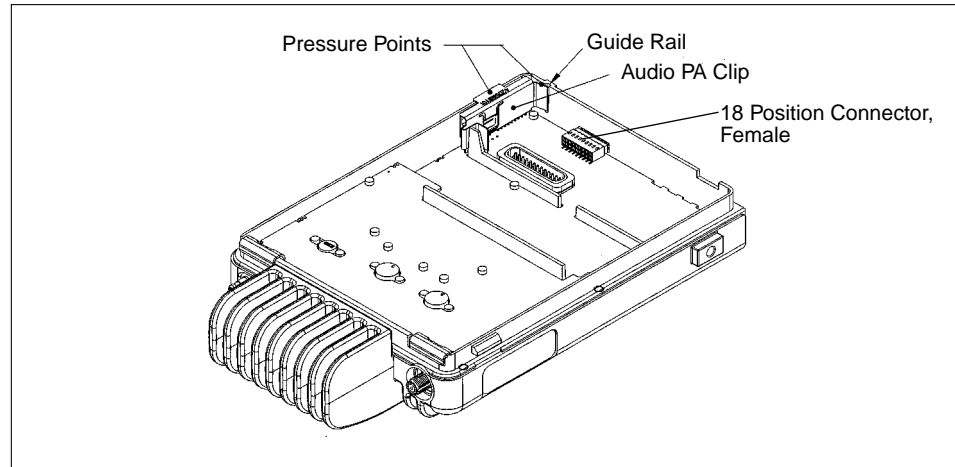

Figure 5-20 Inserting Audio PA Clip
8. Install the Audio PA clip to the corner of the chassis (per Figure 5-20) by applying downward, equal pressure to the side and main tab of the clip. Side pressure on the clip will negatively impact heat sinking of the 5 V Regulator and Audio PA. The placement tab should rest flush against the top of the chassis wall.